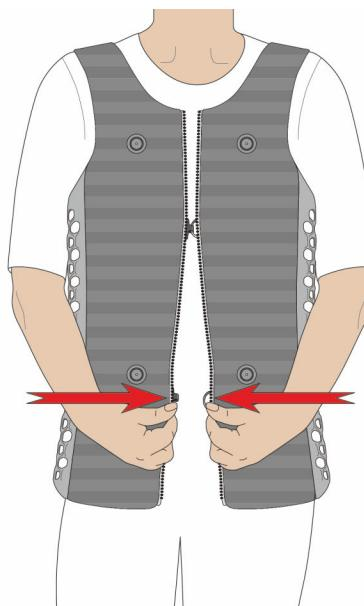

Fig. 35: Wearing the i-body®
*ⓘ Close the “fitting aid” (hook and loop in the area of the chest and abdomen) in accordance with Fig. 35.*